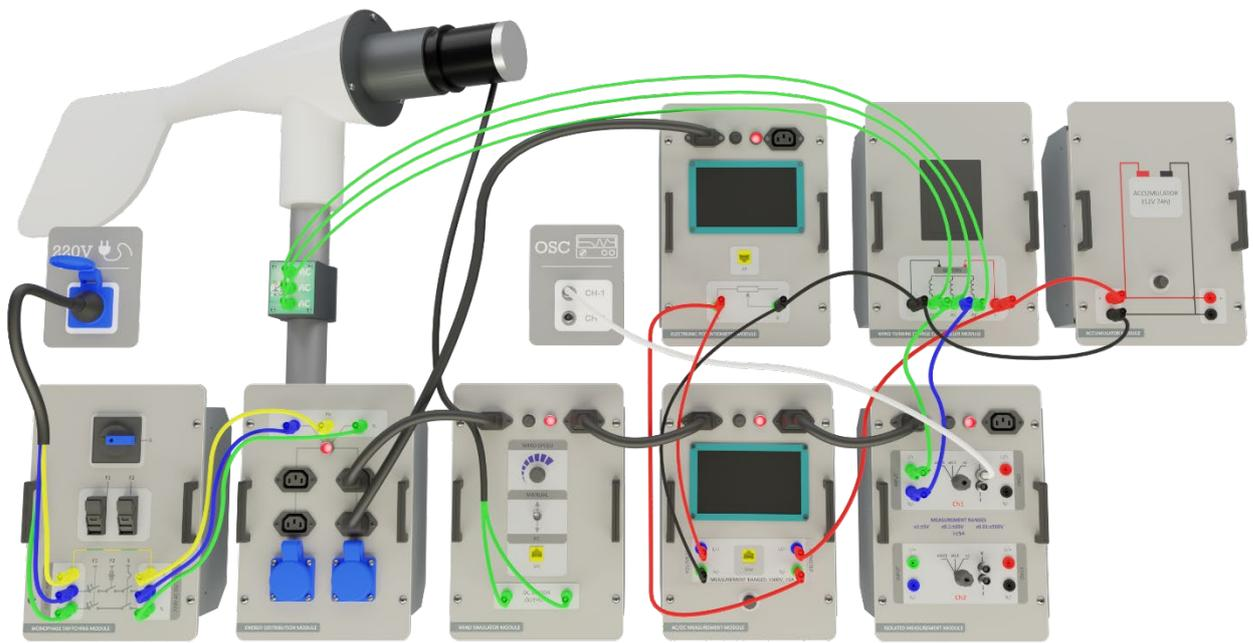

Figure-72. Installation Image of Examination of Variable Load Wind Turbine Charge Control System with Battery
1. Make the connection as shown in Figure-72. Ensure that the caster of the wind turbine is locked to prevent movement.